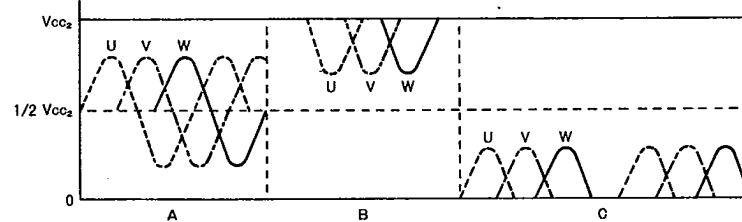

Fig. 5
Vcc2. The output waveform becomes (B) or (C) in Fig. 5 if pin 4 is pulled up to Vcc2 or down to GND.